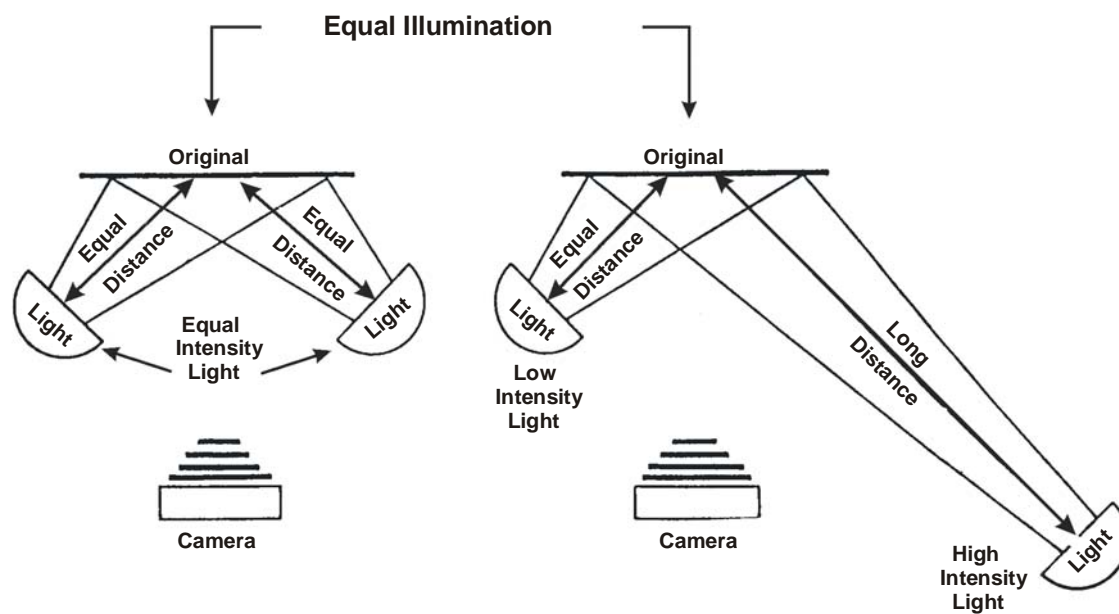

Figure J-2. Angle for Lights
a. Adjust the lights so the center and four corners of the original have the same meter reading. Uniform lighting requires two lights, one on either side of the camera. Place the lights so there is a 45-degree angle between the light and the original, and the light and the camera as in the middle section of Figure J-2.